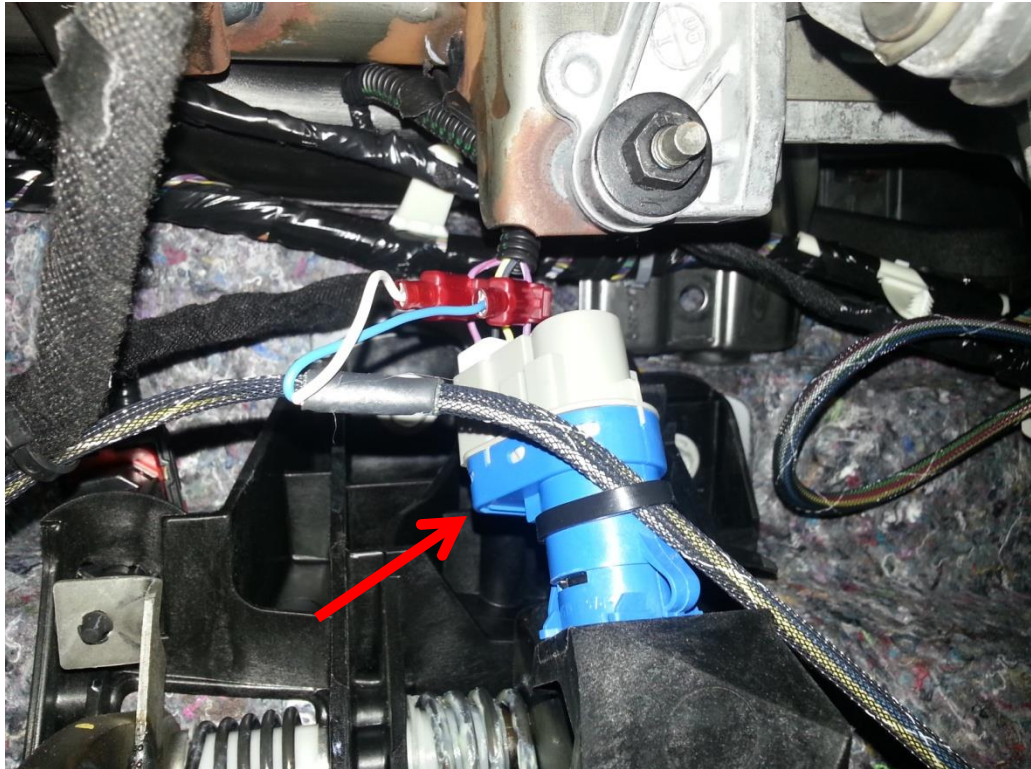

Figure 2 (Brake Sensor)
3. Connect AUTO-BLiP white wire to the **purple/red** wire on the brake pedal switch (Fig 2).
4. Connect AUTO-BLiP blue wire to the **purple/white** wire on the brake pedal switch (Fig 2).